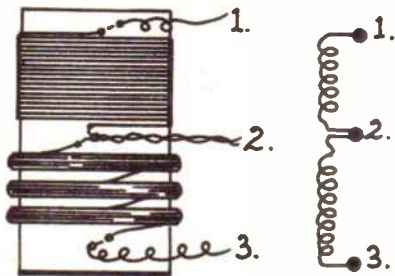

Fig. 1—Dual wave coil
L.W. bands, and to select the appropriate coil by means of a switch. Another method uses a dual-wave or dual-range coil, able to tune both wavebands. This type of coil is shown in Fig. 1 and can easily be used to replace the M.W. type of coil fitted in the crystal detector receiver.